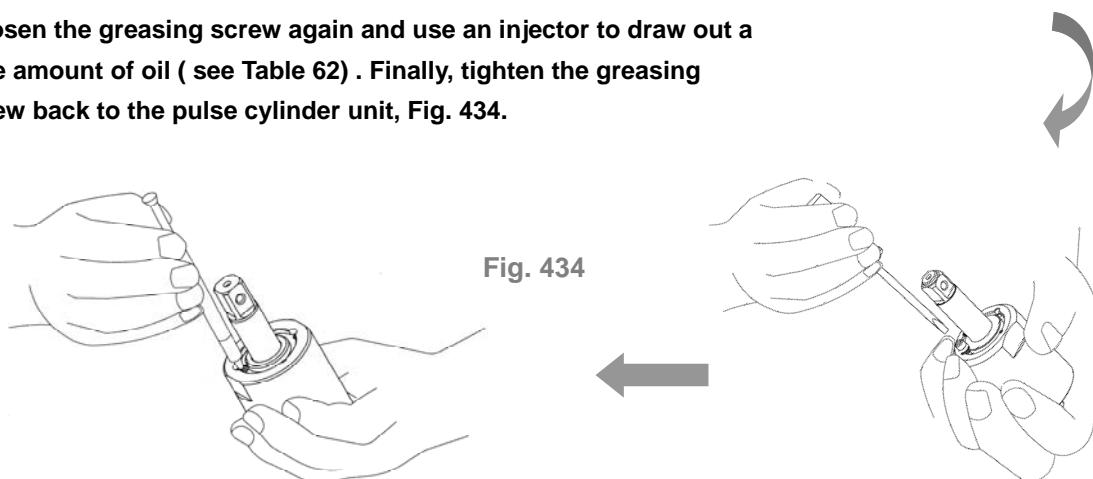

Fig. 434
**⑤** Loosen the greasing screw again and use an injector to draw out a little amount of oil ( see Table 62) . Finally, tighten the greasing screw back to the pulse cylinder unit, Fig. 434.